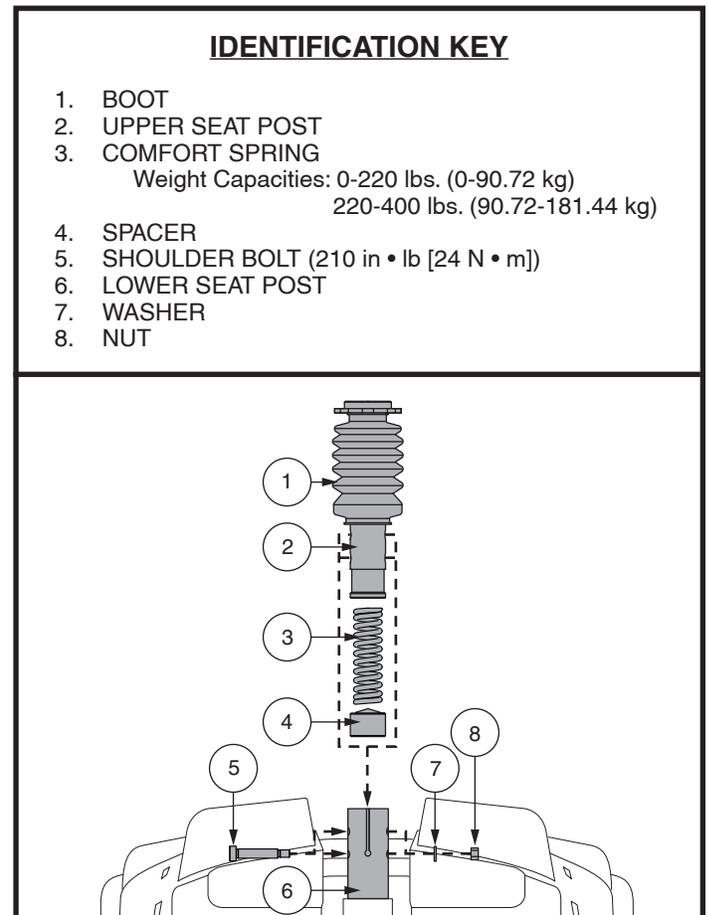

Figure 24. Seat Height Adjustment - Comfort Seat Post
4. Push down on the seat post while loosening and removing the shoulder bolt, washer, and nut. See **figure 24**.
6. Install the desired spring. **See figure 24.**